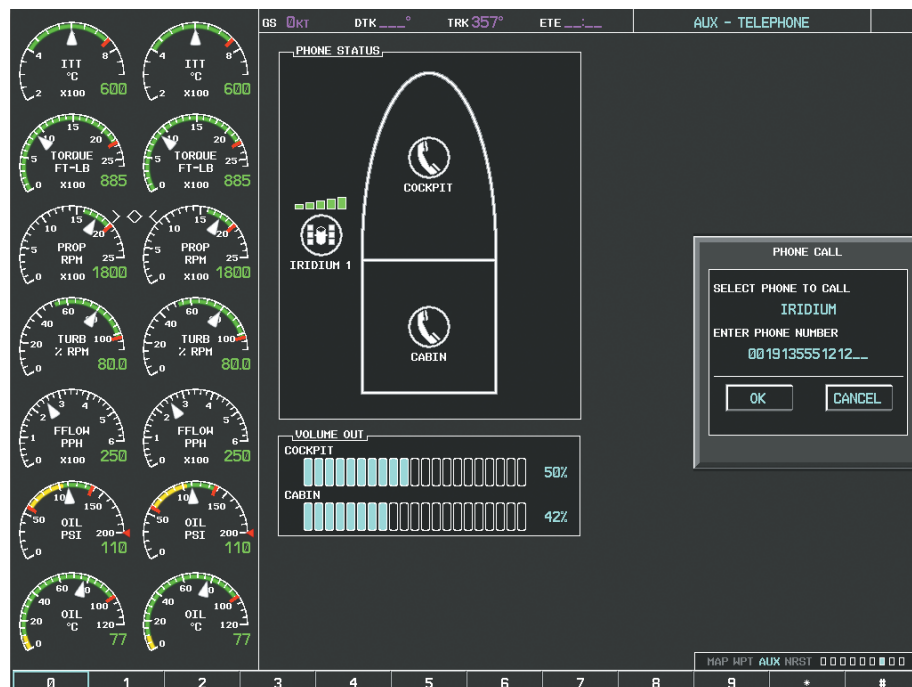

Figure 8-87 Make the Call
- 6) Press the **ENT** Key. 'OK' is highlighted as in Figure 8-87.